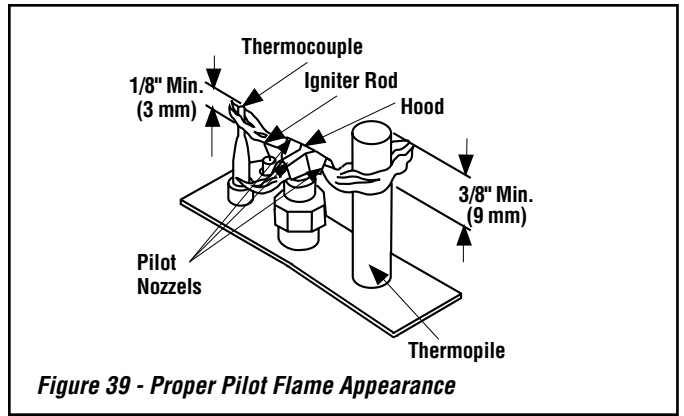

Figure 39 - Proper Pilot Flame Appearance
- Inspect the pilot system for proper flame (see **Figure 39**). NEVER ADJUST THE PILOT until after the gas pressure has been checked and the supply lines have been completely bled (this may take an hour or more when bleeding through the pilot). All pilots are checked and burned at the factory prior to shipment. The pilot adjustment screw is located below the ON/OFF/PILOT control knob. Remove the pilot adjusting cover with a flat-bladed screwdriver to access the pilot adjusting screw. Adjust the pilot screw to properly size the flames. The flames should directly contact the thermopile and extend across the main burner ports. Be careful not to back the screw out of its threads. Replace the cover and check for gas leaks using a gas leak test solution.